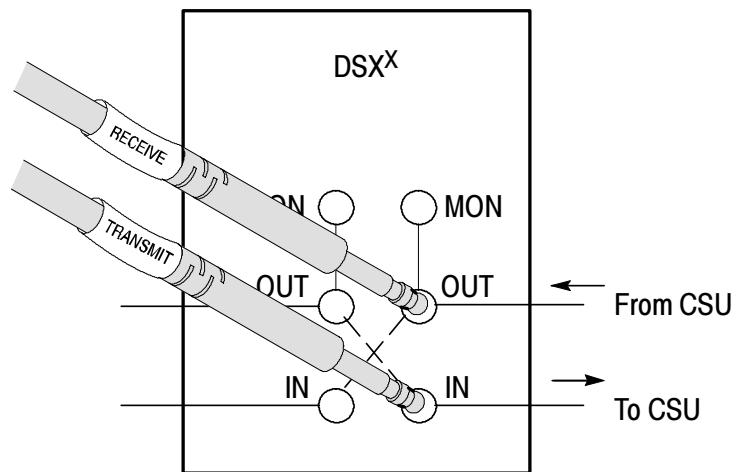

Figure 3-4: Typical connections for terminating a T1 circuit
3. Connect the “Transmit” Bantam plug to the IN side of the service access as shown in Figure 3-4.
4. Connect the “Receive” Bantam plug to the OUT side of the service access as shown in Figure 3-4.